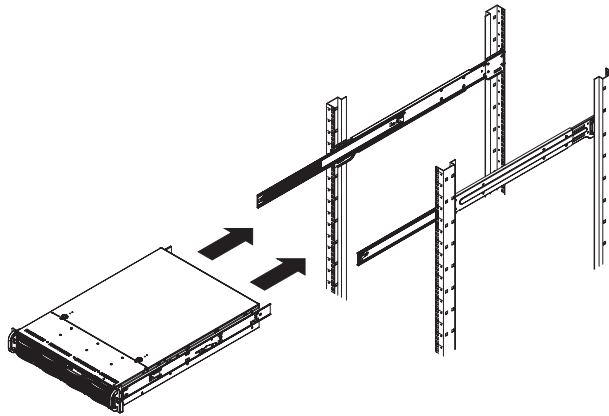

Figure 2-5 Installing the Server in a Rack
You should now have rails attached to both the server chassis and the rack unit. The next step is to install the server into the rack (refer to Figure 2-5).
1. Extend the outer rails as shown in Figure 2-5.